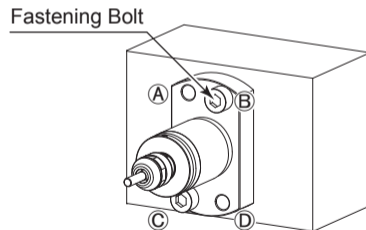

Fig. 42
- ③ Secure the motor spindle through the counter-sunk holes (2 locations : ① and ④ / ② and ③) on the flange using bolts as shown in Fig. 14, Fig. 15, Fig. 16 and Fig. 17. Refer to table 4 and Fig. 42 (For BMF-319 / BMF-320 / BMF-322 / BMF-325).